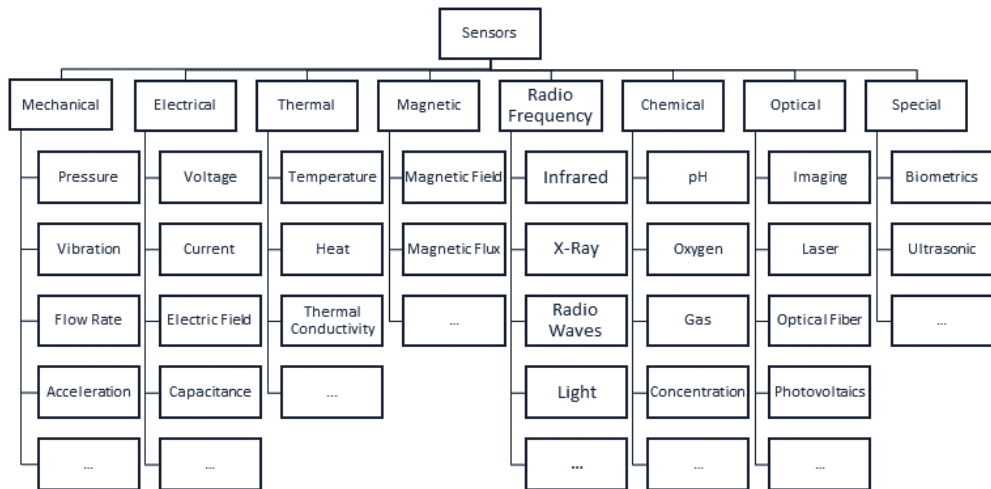

Figure 3.2 – Sensor classification based on properties
*Figure 3.2* generalizes the types of sensors pertinent to the industry with the property as a basis of classification. Each fulfills a specific role in quantifying a manufacturing ecosystem/process and creates data consumed by decision control systems along a Purdue-type model. While this is not an exhaustive list, it provides a general classification for choosing and selecting sensors based on application requirements. Biometric sensors such as iris scanners and face, fingerprint, and speech recognition systems have particular usage in the workforce and security-related applications. Most